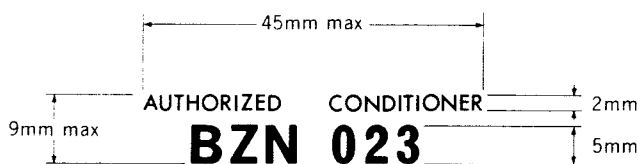

Fig 22.1 Example of conditioning stamp
25. Each individual who is authorized to condition equipment TEST 3RD/4TH LINE, REPAIRABLE 3RD/4TH LINE, and SCRAP is to be provided with a *unique conditioning stamp* which he is to use instead of a signature when certifying those conditions on equipment labels. Each conditioning stamp is to bear the legend AUTHORIZED CONDITIONER and a combined letter and number code. The size and layout of each stamp are to be as illustrated in the example of Fig 22.1